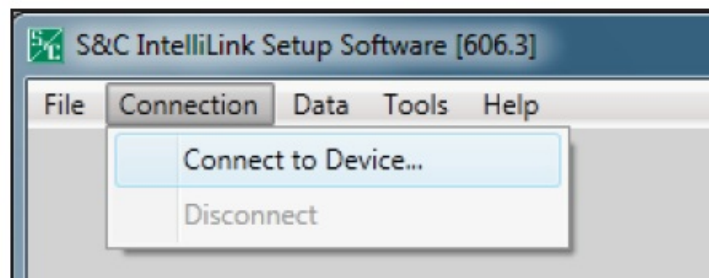

Figure 19. The menu selection Connect to Device....
- **STEP 5.** Select Connection>Connect to Device... from the main menu. See Figure 19.